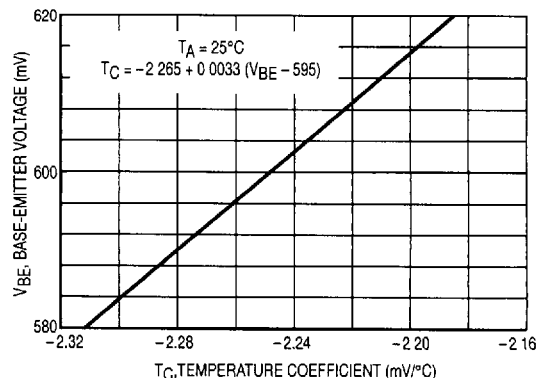

Figure 3. Temperature Coefficient versus Base-Emitter Voltage
- b. If V_{BE} (nom) is less than or greater than 595 mV determine T_C from the relationship described in Note 4. $T_C = -2.265 + 0.0033 (V_{BE} - 595)$ or see Figure 3.